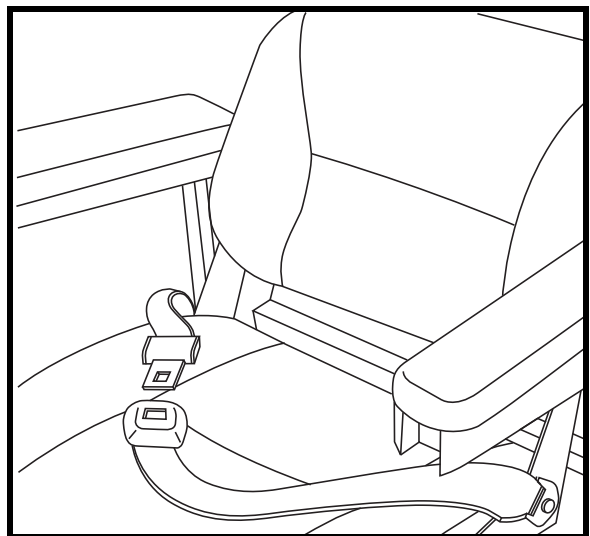

Figure 23A. Positioning Belt
Your scooter seat may be equipped with an auto-type positioning belt that can be adjusted for operator comfort. See **figure 23A**. The positioning belt is designed to help support the operator so that he or she does not slide down or forward in the seat. The positioning belt is not designed for use as a restraining device.
1. Insert the metal tab on the right side of the belt into the plastic housing on the opposite strap until you hear a “click.” See **figure 23A**.